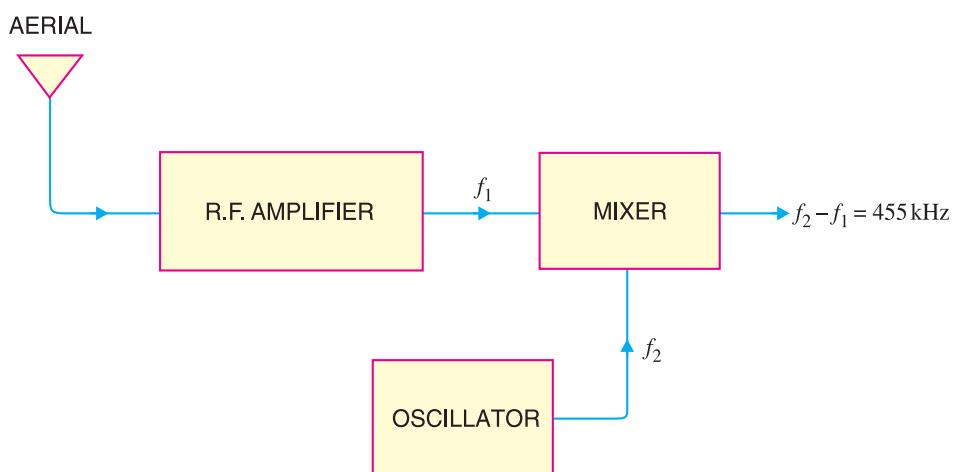

Fig. 16.19
**quency.** As explained later, the circuit is so designed that oscillator always produces a frequency 455 kHz above the selected radio frequency. Therefore, the mixer will always produce an intermediate frequency of 455 kHz regardless of the station to which the receiver is tuned. For instance, if 600 kHz station is tuned, then local oscillator will produce a frequency of 1055 kHz. Consequently, the output from the mixer will have a frequency of 455 kHz. Fig. 16.19 shows the superhetrodyne principle with a block diagram. The selected radio frequency  $f_1$  is mixed with a frequency  $f_2$  from a local oscillator. The output from the mixer is a difference (*i.e.*  $f_2 - f_1$ ) and is always 455 kHz regardless of the station to which the receiver is tuned.